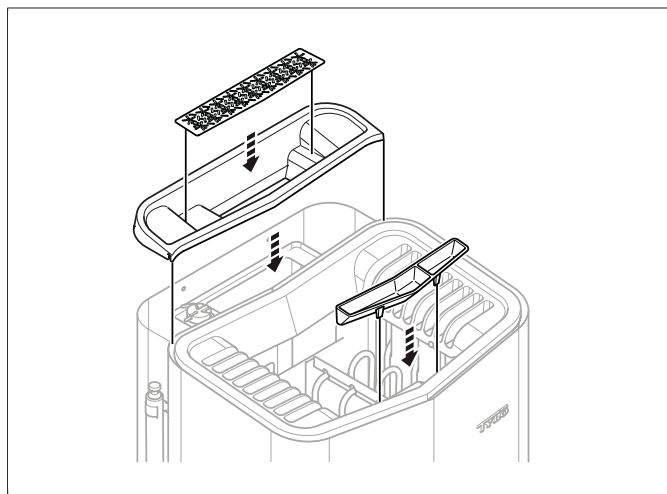

**Figure 13:** Fitting the cover for the water reservoir, herb grille and fragrance holder/air humidifier
11. Fit the cover for the water reservoir, herb grille and fragrance holder/air humidifier (see **Figure 13**, Page 6).